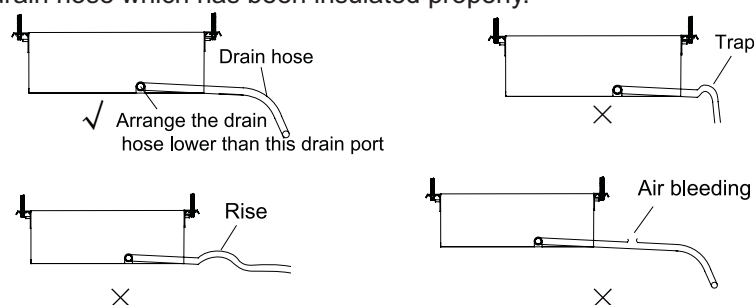

Figure 3-1-8
- (1). Install the drain hose with downward gradient (1/50 to 1/100) and no risers or traps are used for the hose. ( Figure 3-1-8)
- (2). Be sure there is no crack or leak on the drain hose to avoid the formation of air pocket.( Figure 3-1-8)